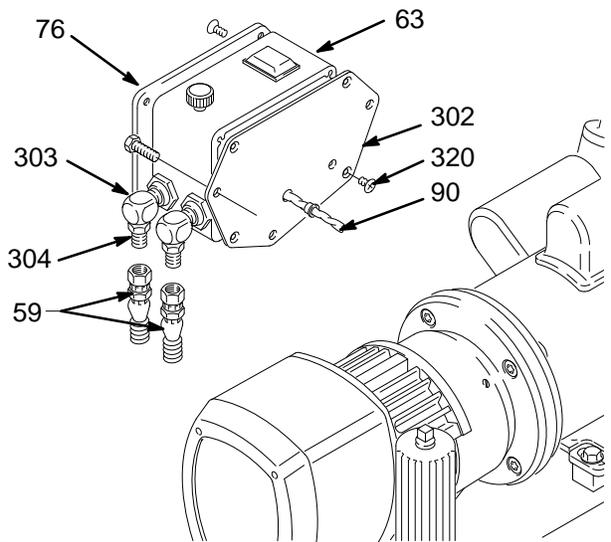

Fig. 13 0489
1. Disconnect both hoses (59) at the pressure control (63). Hold the hex of the nipple (304) firmly with a wrench to prevent turning the elbow (303). Take note of the original location of each hose to be sure you reassemble them correctly at the end of this procedure. See Fig 13.